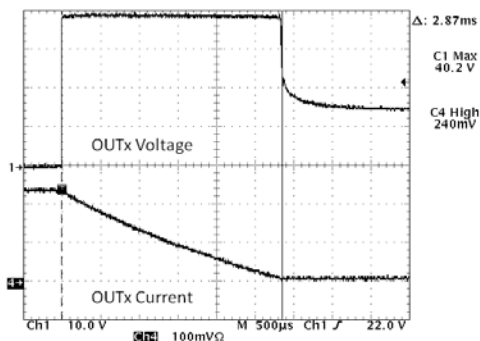

Figure 4. Repetitive Clamping Energy Test
- Testing particulars, 2M pulses, $V_{bat} = 15$ V, 63 Ω, 390 mH, $T_A = 25$ °C. (See Figure 4)